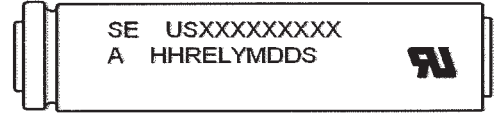

Fig.1
6.2 Trade Mark (Fig.1 : USXXXXXXXXXX) 登録機種名 (Fig.1 : USXXXXXXXXXX)
6.3 Plant (Fig.1 : A for plant code) 製造所 (Fig.1 右記図 : A)
6.4 Specification (Fig.1 : HH for Cell Type) 仕様 (Fig.1 : HH)
6.5 Lot Number (Fig.1 : YMDDS for Manufacturing Date of Cells)
ロット、セル製造年月日 (Fig.1 : YMDDS)
Lot Number (Fig.1 : YMDDS for Manufacturing Date of Cells)
6.6 UL Marking UL マーク (Fig.1 : Recognition Mark)